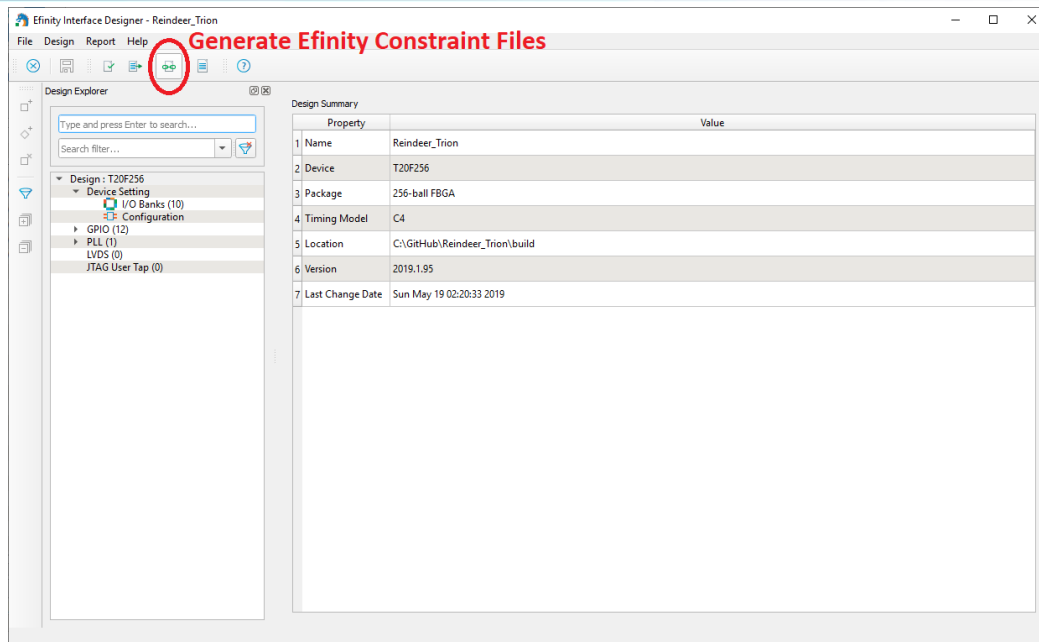

Figure 3-2 Generate Efinity Constraint Files
5. Generate Efinity Constraint Files, as indicated in Figure 3-2.